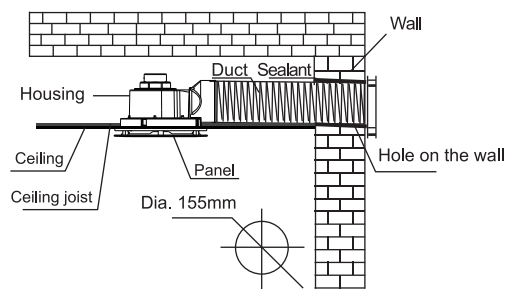

Figure 1: Installing ducting (sold separately)
*If ducting is required for ventilation. Install a 150mm duct pipe to the exhaust fan and lay the ducting across the ceiling and onto a suitable 150mm exhaust vent (see figure 1)